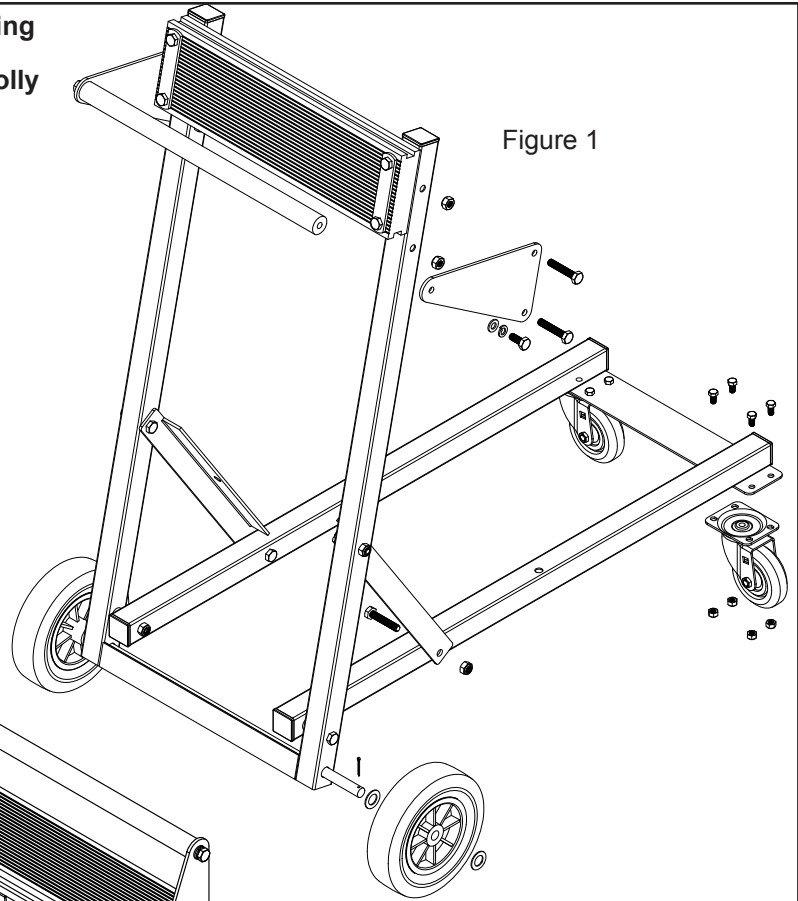

Figure 1
1. Insert and tighten bolts as shown in Figure 1.